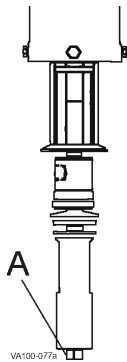

Figure 15 - Valve Stem Removal
1. Using an open end wrench, remove the lower stem (Figure 15, item A) from the actuator by turning it counter-clockwise.